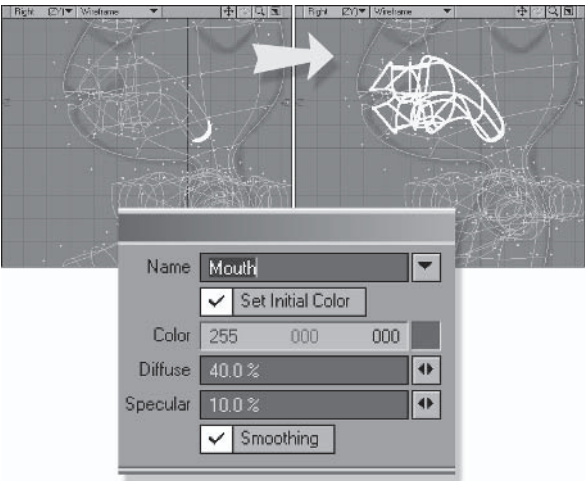

Figure 3.4-3. Use these settings for the Mouth surface.
- 3. Select the four polygons at the back of the mouth and **Expand Selection (Shift+J)** five times, then **Contract Selection (Shift+I)** once. This selects all the polygons of the inner mouth. **Change Surface to Mouth** and copy the other settings from Figure 3.4-3.